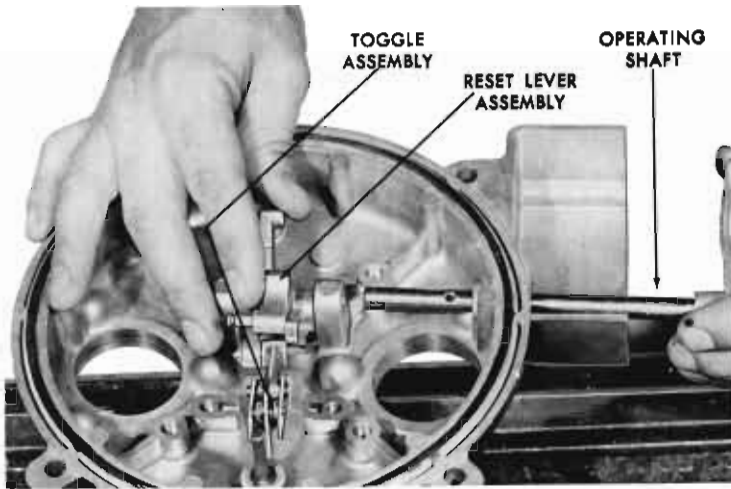

FIGURE 10
5. Pull and twist operating shaft, figure 10, to remove it. Toggle assembly, and reset lever assembly will both be released.
7. Re-assemble the rest of the head components including toggle assembly and reset lever as shown in figure 10.